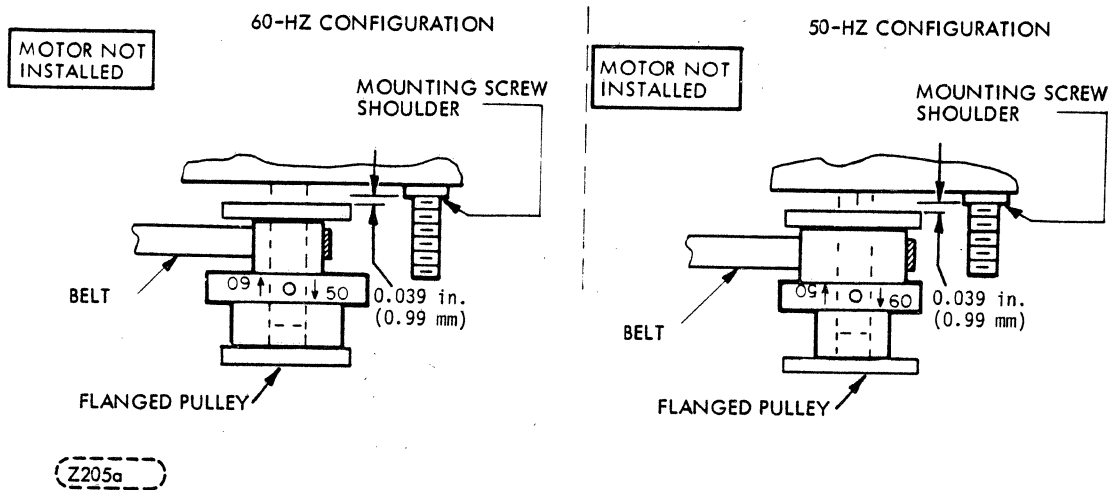

FIGURE 6-13. DRIVE-PULLEY REVERSAL
- f. Position pulley allowing tolerance of 0.039 in. (0.99mm) \pm 0.10 in. (0.254 mm) between shoulder of motor mounting screws and pulley (Figure 6-13).